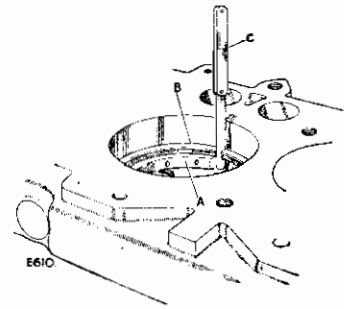

Fig. A-414—Checking piston ring gap
1. Check the piston ring gaps in the cylinder bores, using an old piston as illustrated in Fig. A-414, to keep the rings square in the bore.